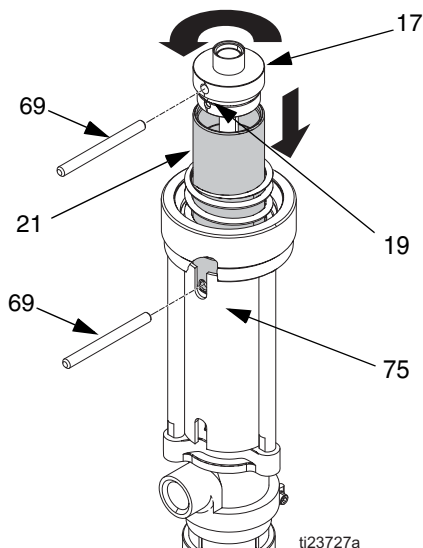

FIG. 13
4. Align slot of shield (75) with piston hole and place pin tool (69) in piston hole to prevent piston from turning. Use second pin tool (69) to unscrew piston cap (17) and separate from piston (21) to expose dowel pin (19). See FIG. 13.